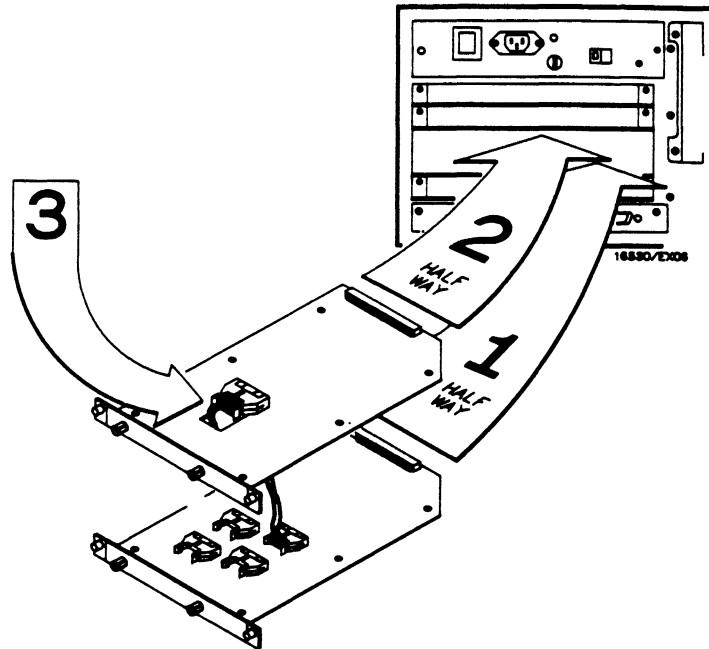

Figure 2-5. Installation Summary
- k. Plug in other end of cable to connector on acquisition card. See figure 2-5.